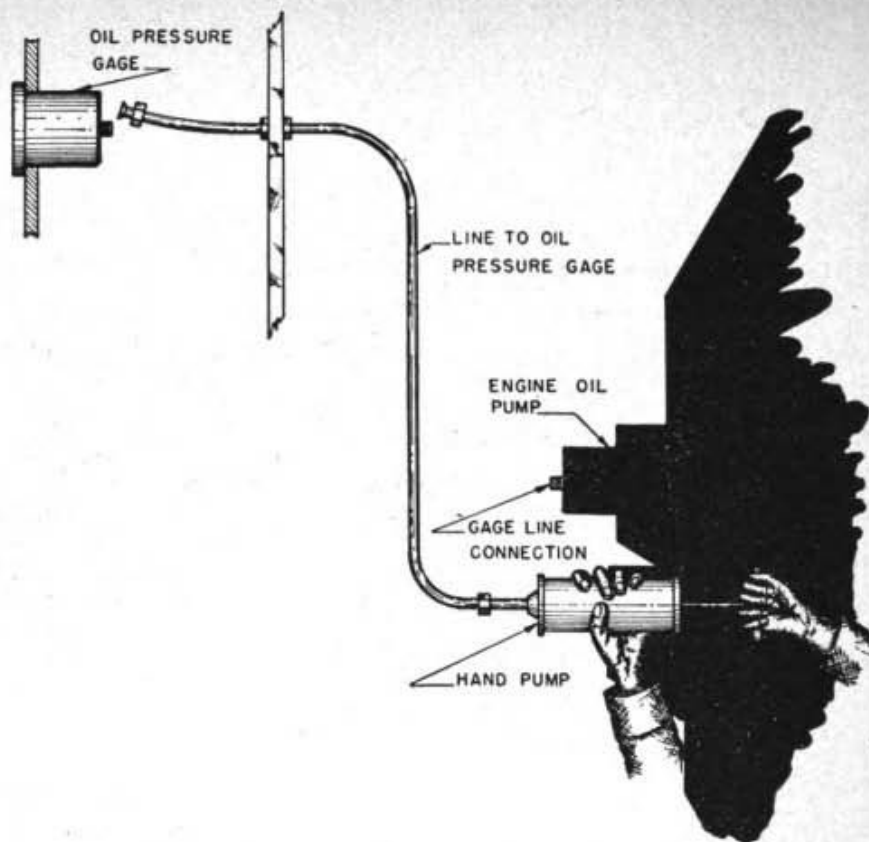

Figure 28. Filling the oil pressure gauge line with light oil.
(2) COLD WEATHER OPERATION OF HYDRAULIC PROPELLERS. Because engine oil is used to actuate the propeller mechanism, the oil must be diluted to provide satisfactory propeller operation during cold weather. During the last 2 minutes of the last oil dilution period the throttle will be moved slowly from its original position of 800 rpm to a position to obtain a manifold pressure of 26 inches Hg and then moved back to its original position. This procedure will be accomplished twice before the oil dilution is completed. Any slight amount of oil leakage that may occur through the blade packings of a hydromatic propeller following an oil dilution is considered normal. If leakage becomes excessive or continues in flight, it must be corrected.
(3) COLD WEATHER OPERATION OF TURBO-SUPERCHARGER REGULATOR. During the procedure of oil dilution, the supercharger regulator will be operated to expel the undiluted oil from the piston chamber. During the last 2 minutes of the last period of oil dilution, the regulator control is moved from the LOW to the HIGH boost position in a minimum period of 8 seconds.
(4) COLD WEATHER OPERATION OF OIL PRESSURE GAUGE. During cold weather operation of the airplane with temperatures below 0° C. (32° F.) engine oil will congeal in the oil pressure gauge line and may cause sluggish response on the gauge when the engine is started. To prevent this, the oil gauge line is filled with a lighter oil (the specification number should be checked in Technical Orders). Disconnect the oil pressure gauge line at the instrument and at the engine and drain out all of the heavy oil. Compressed air may be used to force out the oil. If the oil gun pump is not equipped with a fitting, solder one on the nozzle and connect the engine side of the line to the soldered fitting. With the oil gun, force oil through the line until a small amount drips from the opposite end. (See fig. 28.) Connect this end to the instrument without withdrawing the plunger of the pump and carefully tighten the connection. Remove the oil gun and connect the line to the engine. Normally, the light oil mixes very slowly with the engine oil. The oil gauge will operate satisfactorily for as long as 60 to 90 days after the line is filled with light oil.
(5) COLD WEATHER START WITHOUT PREVIOUS OIL DILUTION. If a cold weather start is necessary and oil dilution previous to engine stopping has not been accomplished, a normal start should be made. After starting the engine, if a heavy viscous oil is indicated, the